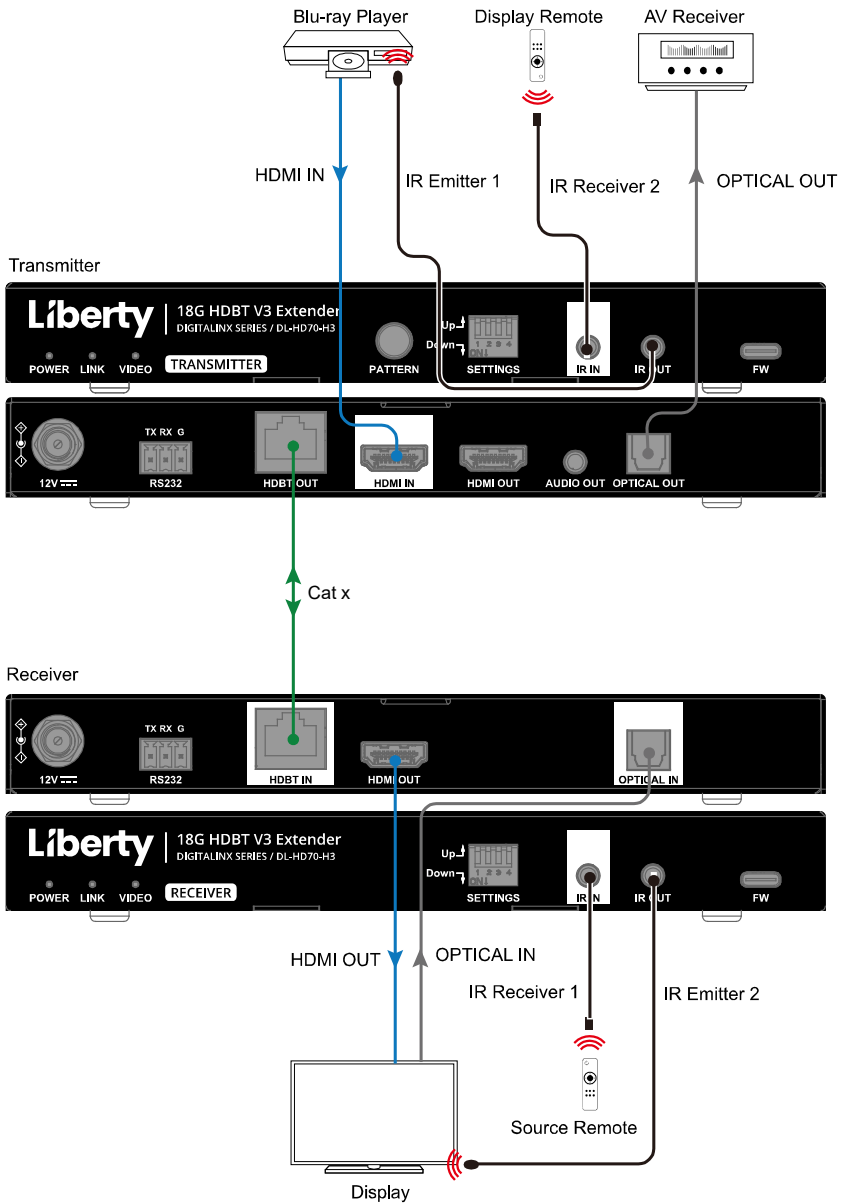

Figure 1
4. Power on all attached devices. The audio and video signal from the HDMI source will be transmitted to the HDMI display (See Figure 1).
6. Power on all attached devices. Audio signal from OPTICAL IN port will be transmitted to OPTICAL OUT port (See Figure 1).
port of the receiver/transmitter. Users can control the source at the receiver side using source remote or control the display at the transmitter side using display remote (See Figure 1).